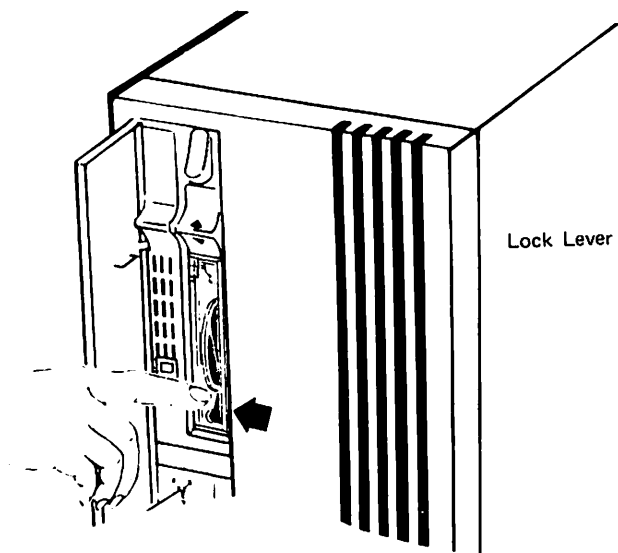

Figure 6
4. Without releasing the pressure on the data cartridge, move the cartridge to the left with your finger as shown in Figure 6.